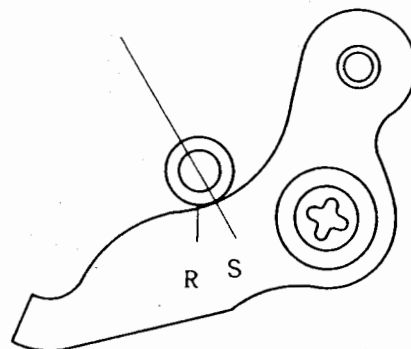

Fig. 55 Adjusting the throttle cam
In this case adjust the length of the handle link rod so that the START match mark (L) of the handle grip comes to the embossed letter "START" position of the handle and fix by means of the ball joint installing nut. (R = Specified opening position for reversing) (Fig. 55)